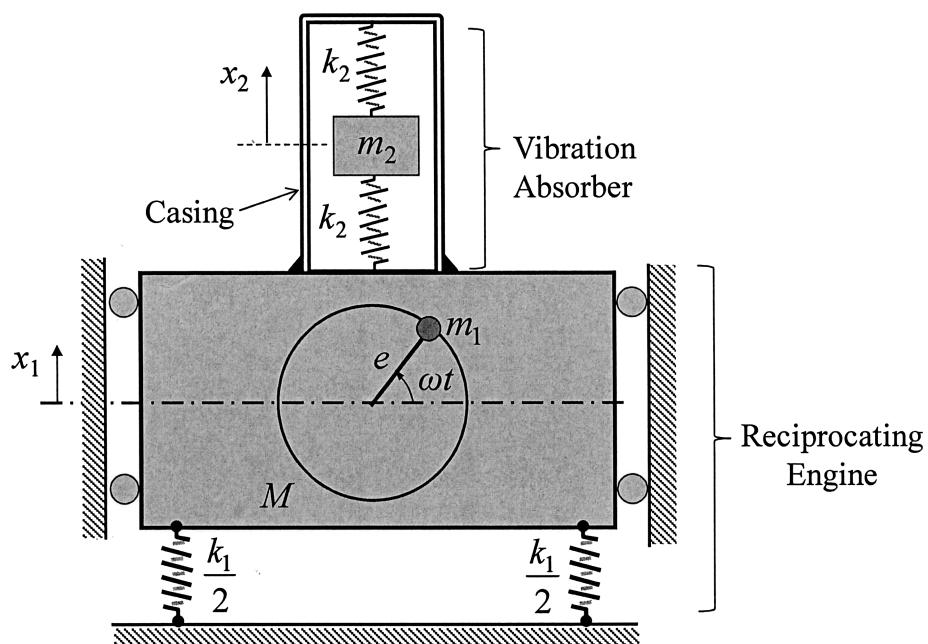

Figure 6
4. Figure 6 shows a vibration absorber mounted on a reciprocating engine. The vibration absorber consists of a mass  $m_2$  and two springs of same stiffness  $k_2$ . The casing of the vibration absorber is rigidly fixed to the engine as shown. The reciprocating engine is modelled as spring-mass system with a mass of  $M$  supported on two springs of total stiffness of  $k_1$  as shown. The engine has an unbalanced mass of  $m_1$ . The total mass  $M$  includes  $m_1$ . The rotational speed of the engine is  $\omega$  rad/s. The displacements  $x_1$  and  $x_2$  shown are measured from the respective static equilibrium positions of masses.